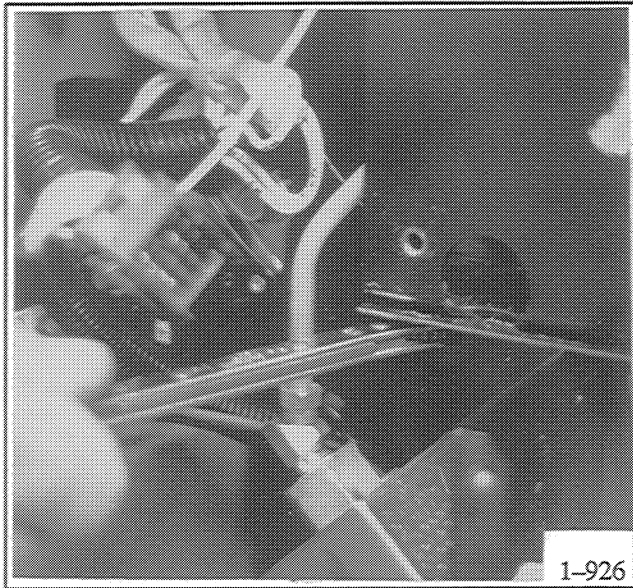

Figure 8-14. Removing Circuit Breaker Box
18. Remove two screws securing A.C. circuit breaker box to stator bracket using 3/8 in. ratchet. See Figure 8-14.